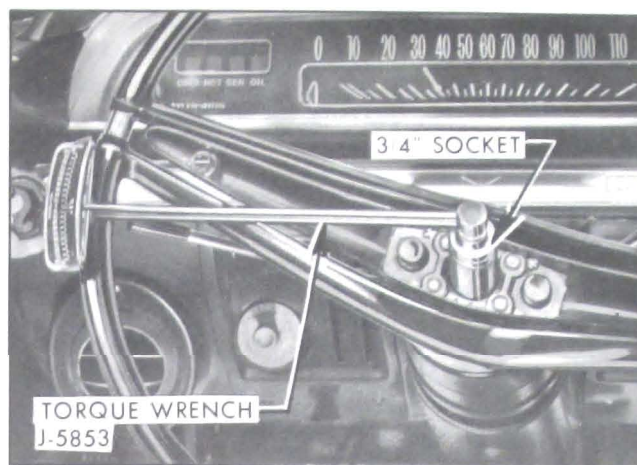

Figure 8-4—Checking Adjustments in Car
6. Attach torque wrench J-5853 to steering wheel retaining nut and check the torque required to turn the wheel steadily in the range where lash exists between ball nut and pitman shaft sector. See Figure 8-4. The torque required to keep wheel turning should be between 2 and 7 inch pounds. Adjust worm bearing preload if necessary.